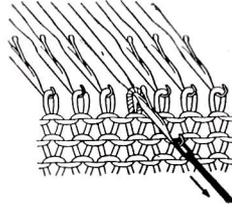

Fig. 23
- b. With the transfer tool, bring forward the needle. By bringing this needle forward, the stitch in the hook of the needle will slide behind latch and on the stem. (See Fig. 23)